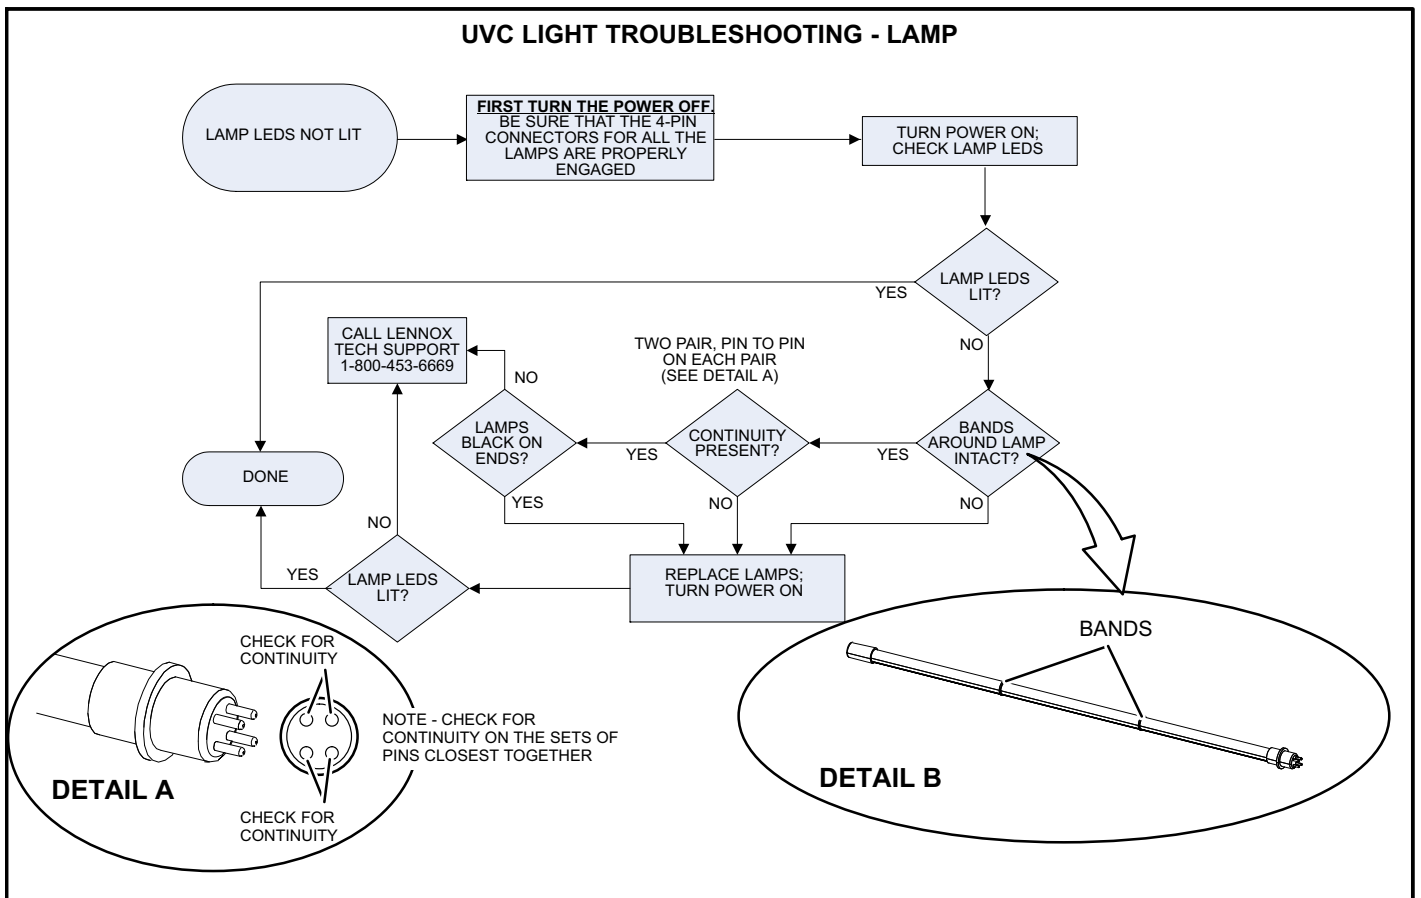

FIGURE 19
- 2- Ohm-check across the lamp pins to check for continuity of lamp filaments (see figure 19).